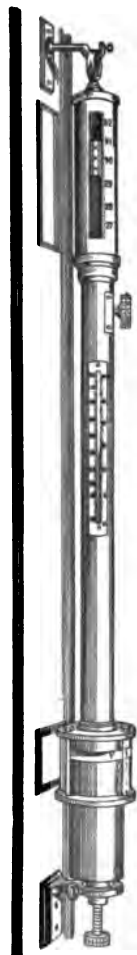

FIG. 33.—A standard barometer.
**56. The Barometer.**—The modern barometer (Fig. 33), consists of a Torricellian tube properly mounted. Reading a barometer consists in accurately reading the height of the mercury column.